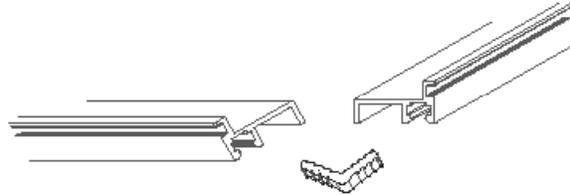

Figure 5
STEP 7. Locate the frame corner sections for each corner of the frame (see the details for the section designations). The corner sections of the frame must be assembled first. Select mating corner sections of the frame, and place a splice pin (part no 312) into the channel of one of the selected corner frame sections. Note that the splice pins have a 90° angle configuration (see Figure 5). Insert one leg of the splice pin into the channel of the mitered end of the frame corner section, and using a rubber or leather mallet, drive the splice pin into the channel as far as it will go.